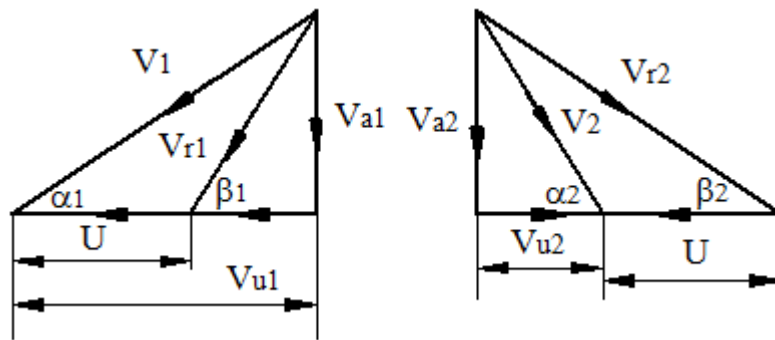

Fig. 3.7 Velocity diagram for axial flow impulse turbine.
**Answer:** The velocity diagram for an axial flow impulse turbine stage with equiangular rotor blades is shown in figure 3.7.
**Answer:** Figure 3.7 gives the velocity diagram for the axial flow turbine. For fully reaction axial flow turbine,  $R=1$  and  $V_1=V_2$  and also  $\alpha_1=\alpha_2$ .